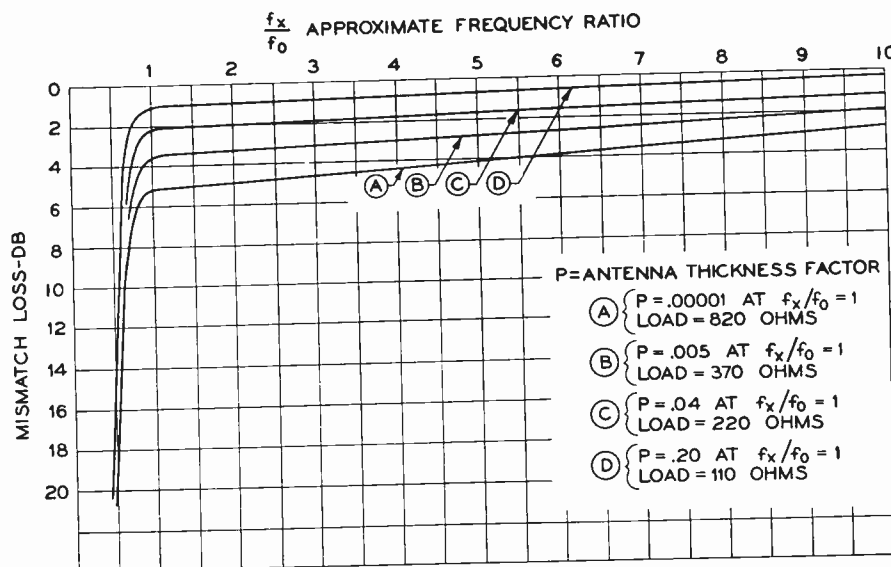

Fig. 3. The mismatch loss is shown for an intermediate case where the load matches neither the full- or half-wave point, but is equal to
The third case, where the load is selected to be the geometric mean of the half-wave and full-wave value (Fig. 3), requires load resistances of 820 ohms, 370 ohms, 220 ohms, and 110 ohms. By choosing these mean values, the mismatch loss curve is quite constant with frequency ratios above unity. It must be admitted, however, that this third case does not fully match at any frequency and we can expect that this will give rise to the possibility of assisting some reflections (line ghosts) at all frequencies. These reflections in the first and second case were completely eliminated at the matched frequency points, but became very serious at most other frequencies. The following approximations in Figs. 1, 2, and 3 have been made:
b. Minor variations in Fig. 3, which may occur in practice, are not shown. These may cause the flat portion of the graph to exhibit cyclic dips of 1 db to 2 db between integral frequency ratios.
Let us note some important conclusions from these graphs. If we match an antenna at any resonance point, we find that the maximum loss at other frequencies may be relatively high. If we permit a small constant mismatch, the third case (Fig. 3), we get a loss at all frequencies,